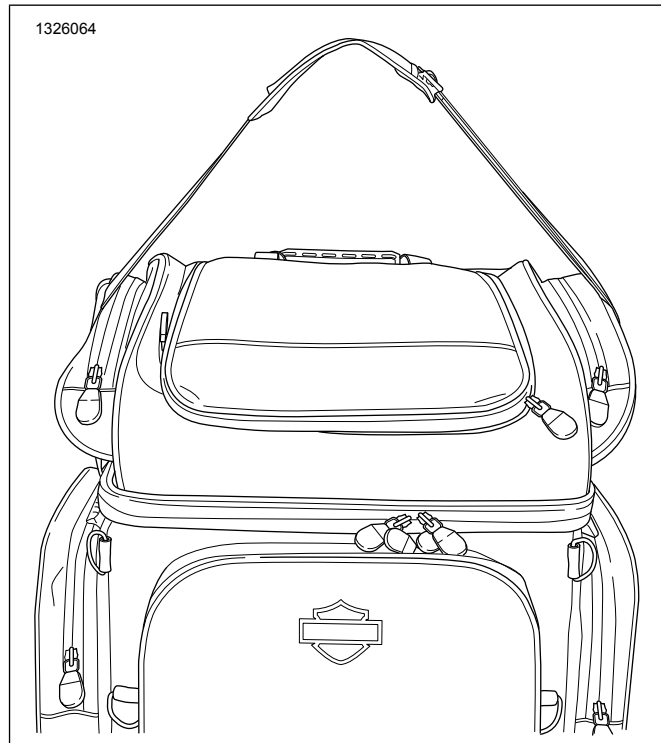

Figure 2. Shoulder Strap (Typical)
1. See Figure 2. Hook ends of strap to D-rings on each side of bag.